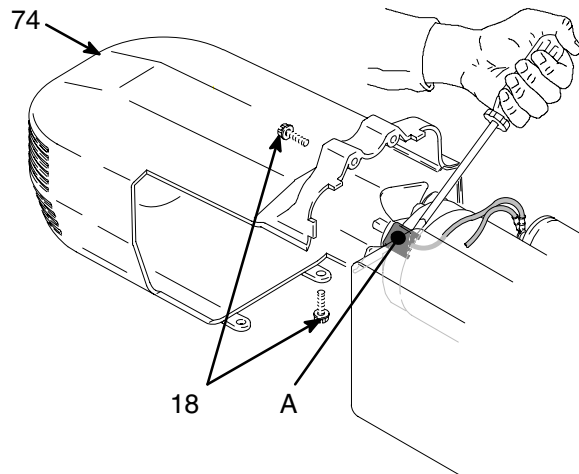

Fig. 3
4. Fig. 3. Remove motor shroud (74).
3. Fig. 3. Remove four screws (18) and motor shroud (74).
4. Pry off two brush caps (A). Tag locations of red (+) and black (-) motor leads.